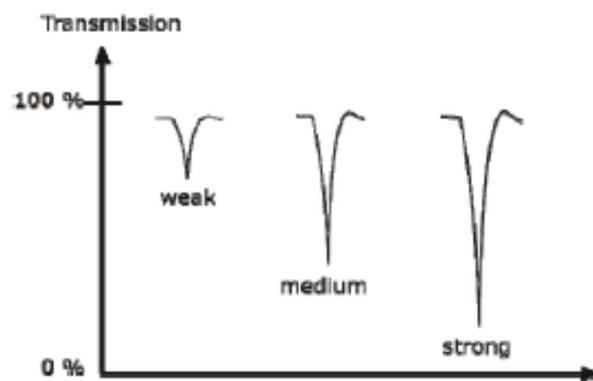

Figure 10. IR bands, intensity classification.
**Basic Theory** and identification of main functional groups: See the printed ppt: "INFRARED SPECTROSCOPY (IR), Theory and Interpretation of IR spectra". There is also a document with the characteristics of IR spectrums of aromatic compounds.
**Tables of IR frequencies** for identification of the main functional groups. The wavenumber (frequency), intensity and peak shape are the variables you have to study to identify a peak. Intensity: IR bands can be classified as strong (s), medium (m) or weak (w) depending on their relative intensities (Figure 10). Shape: Two of the most common are narrow (e.g. C-H) and broad (e.g. O-H).